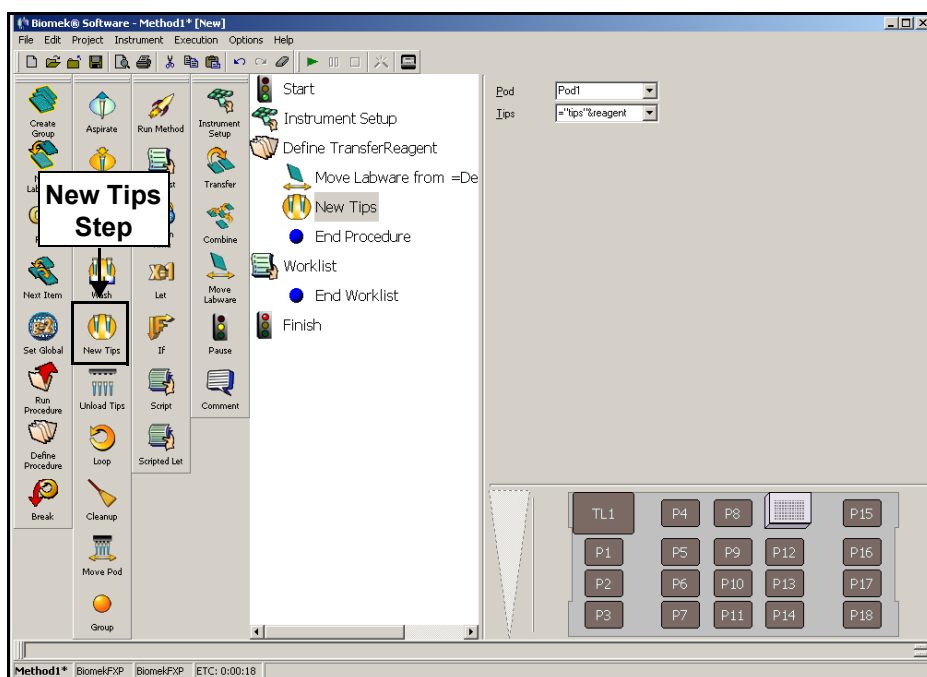

Figure 4-6. New Tips configured
2. In Tips in the configuration view, highlight the field and enter **=“tips”&reagent** (Figure 4-6).